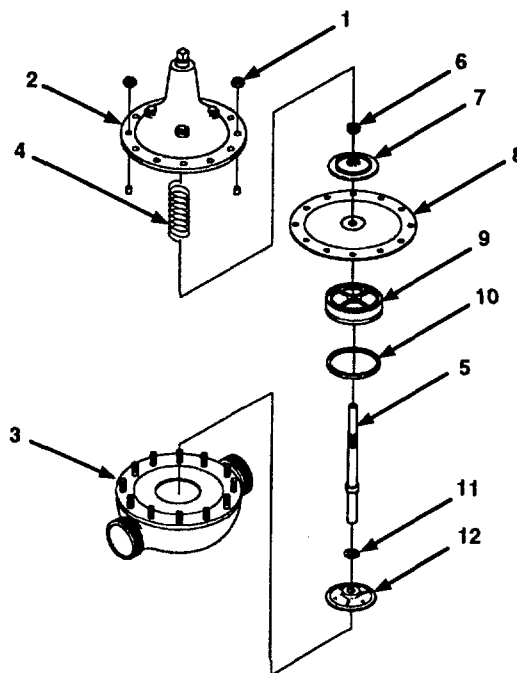

Figure 5-2. Main Valve Assembly Maintenance.
- a. Remove twelve hex nuts (Figure 5-2, 1).